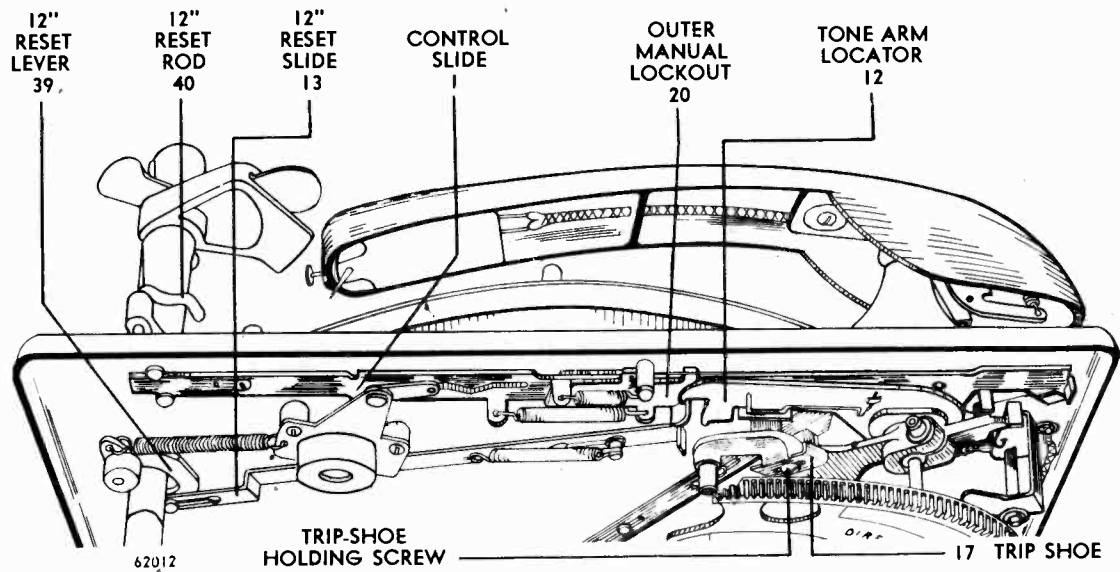

FIGURE 15. CUTAWAY BOTTOM VIEW
J. NEEDLE PRESSURE is controlled by the counter-balance spring (24) in back of the tone arm. The pressure is variable through the counter-balance adjusting slide (25). The needle pressure should not be less than 1-1/8 oz.
3. Closed-circle trip is incorrectly set. The trip shoe (17) is movable and loosening its holding screw allows it to be adjusted as required. This adjustment is correct when the needle is 1-7/8 inches from the record center and the trip shoe pushes the trip lever which releases the clutch engagement lever. (See Fig. 15)